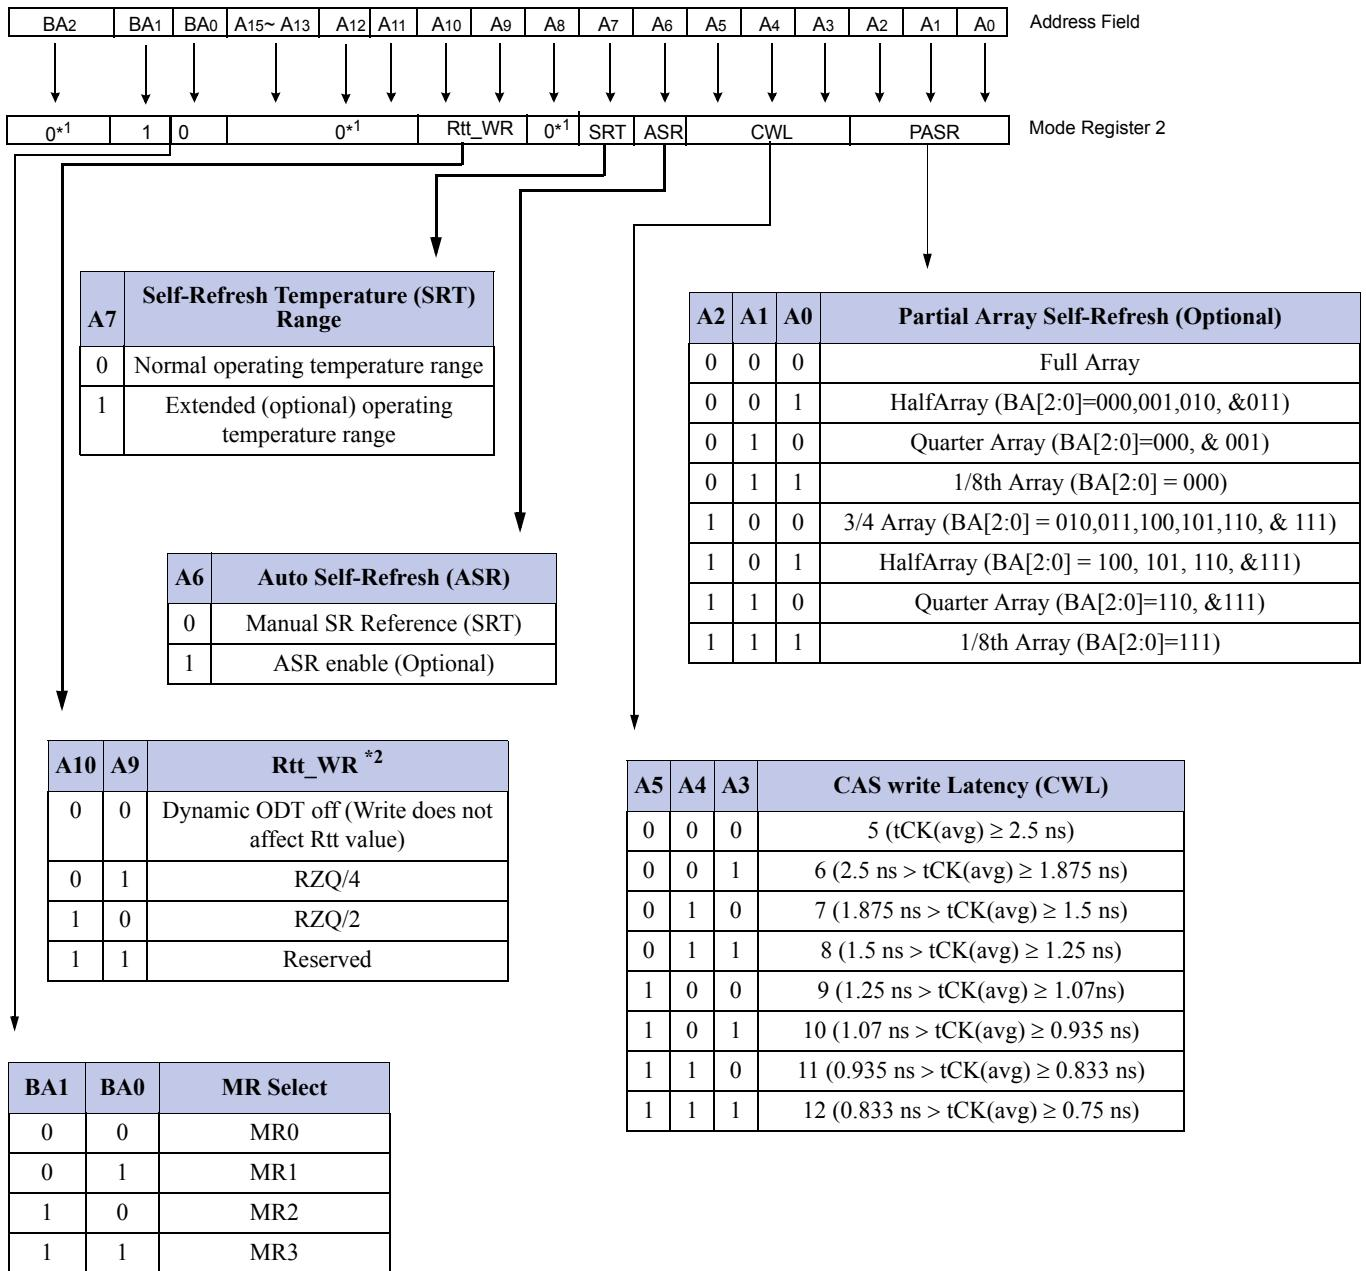

Figure 11 — MR2 Definition
Optional in DDR3 SDRAM: Users should refer to the DRAM supplier data sheet and/or the DIMM SPD to determine if DDR3 SDRAM devices support the following options or requirements referred to in this material. If PASR (Partial Array Self-Refresh) is enabled, data located in areas of the array beyond the specified address range shown in Figure 11 will be lost if Self-Refresh is entered. Data integrity will be maintained if tREFI conditions are met and no Self-Refresh command is issued.
The CAS Write Latency is defined by MR2 (bits A3-A5), as shown in Figure 11. CAS Write Latency is the delay, in clock cycles, between the internal Write command and the availability of the first bit of input data. DDR3 SDRAM does not support any half-clock latencies. The overall Write Latency (WL) is defined as Additive Latency (AL) + CAS Write Latency (CWL); $WL = AL + CWL$. For more information on the supported CWL and AL settings based on the operating clock frequency, refer to “Standard Speed Bins” on page 159. For detailed Write operation refer to “WRITE Operation” on page 68.